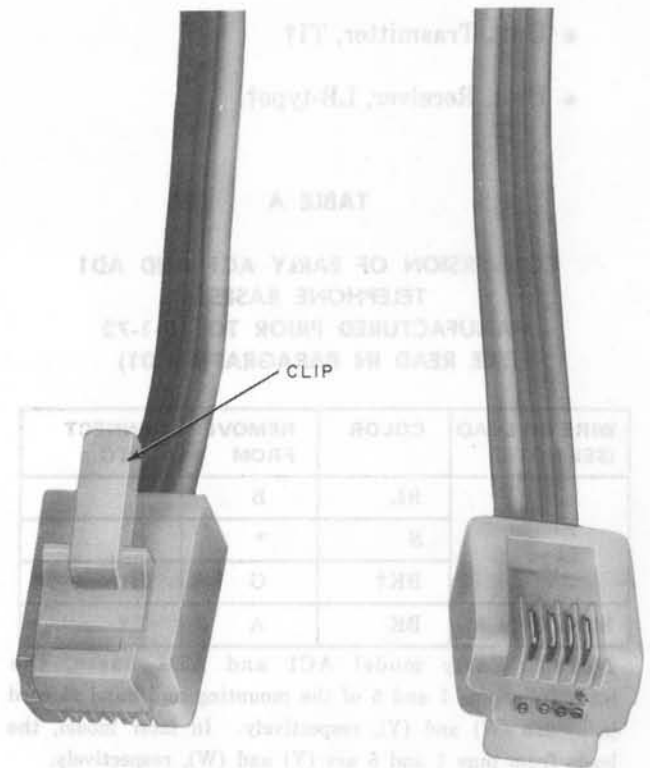

Fig. 8—D4BU Mounting Cord
- Cord, Mounting, D4BU-* (7, 14, and 25 foot length), Fig. 8